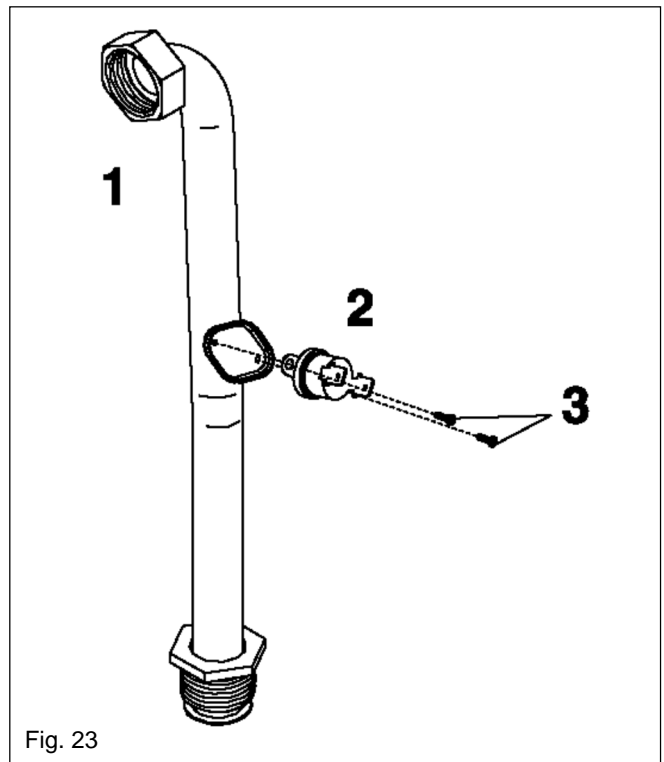

Fig. 23
6.11 HIGH LIMIT THERMOSTAT (see fig. 23)